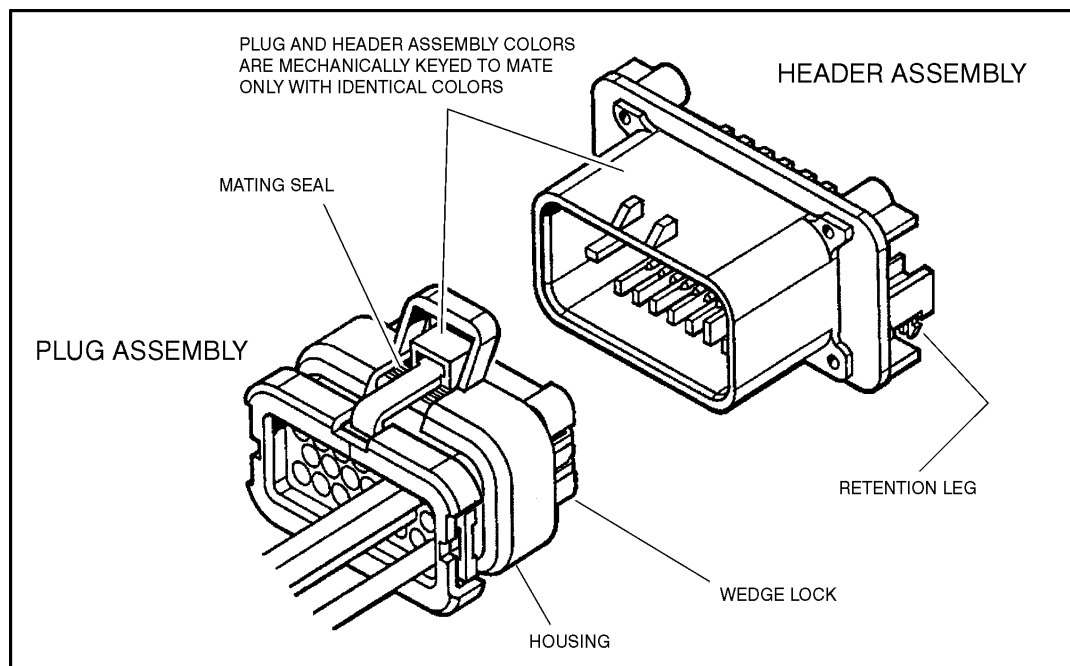

Figure 7-8. AMP Connector
1. To insert a contact, push it straight into the appropriate circuit cavity as far as it will go (See Figure 7-8.).